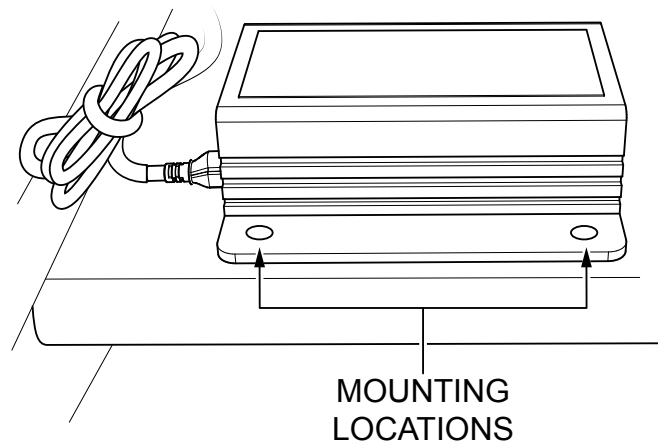

Figure 5. Battery Tender Mounting Locations
2. Once positioned, mark the four screw mounting locations as shown in Figure 5.